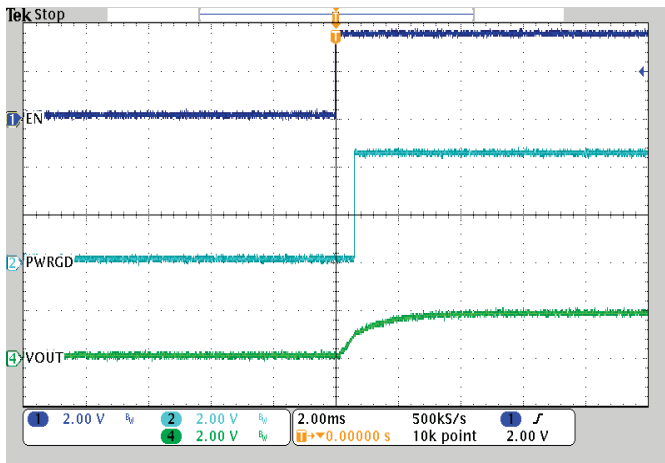
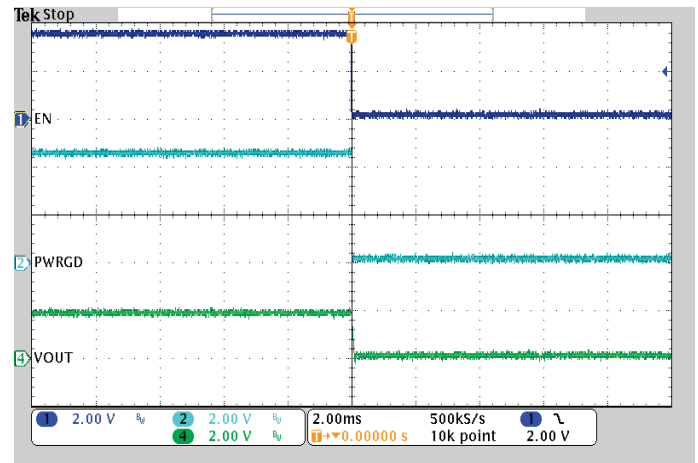

Fig. 18 Enable Turn-On for SPM1006 (set to 1.8V, with  $I_{OUT} = 6A$ )
Fig. 19 Enable Turn-Off for SPM1006 (set to 1.8V, with  $I_{OUT} = 6A$ )
Fig. 18 and Fig. 19 show the typical output voltage waveforms when SPM1006 is turned on and turned off by the EN pin. In these figures, the top trace is enable signal (EN), the middle trace is Power Good signal (PWRGD), and the bottom trace is the output voltage.